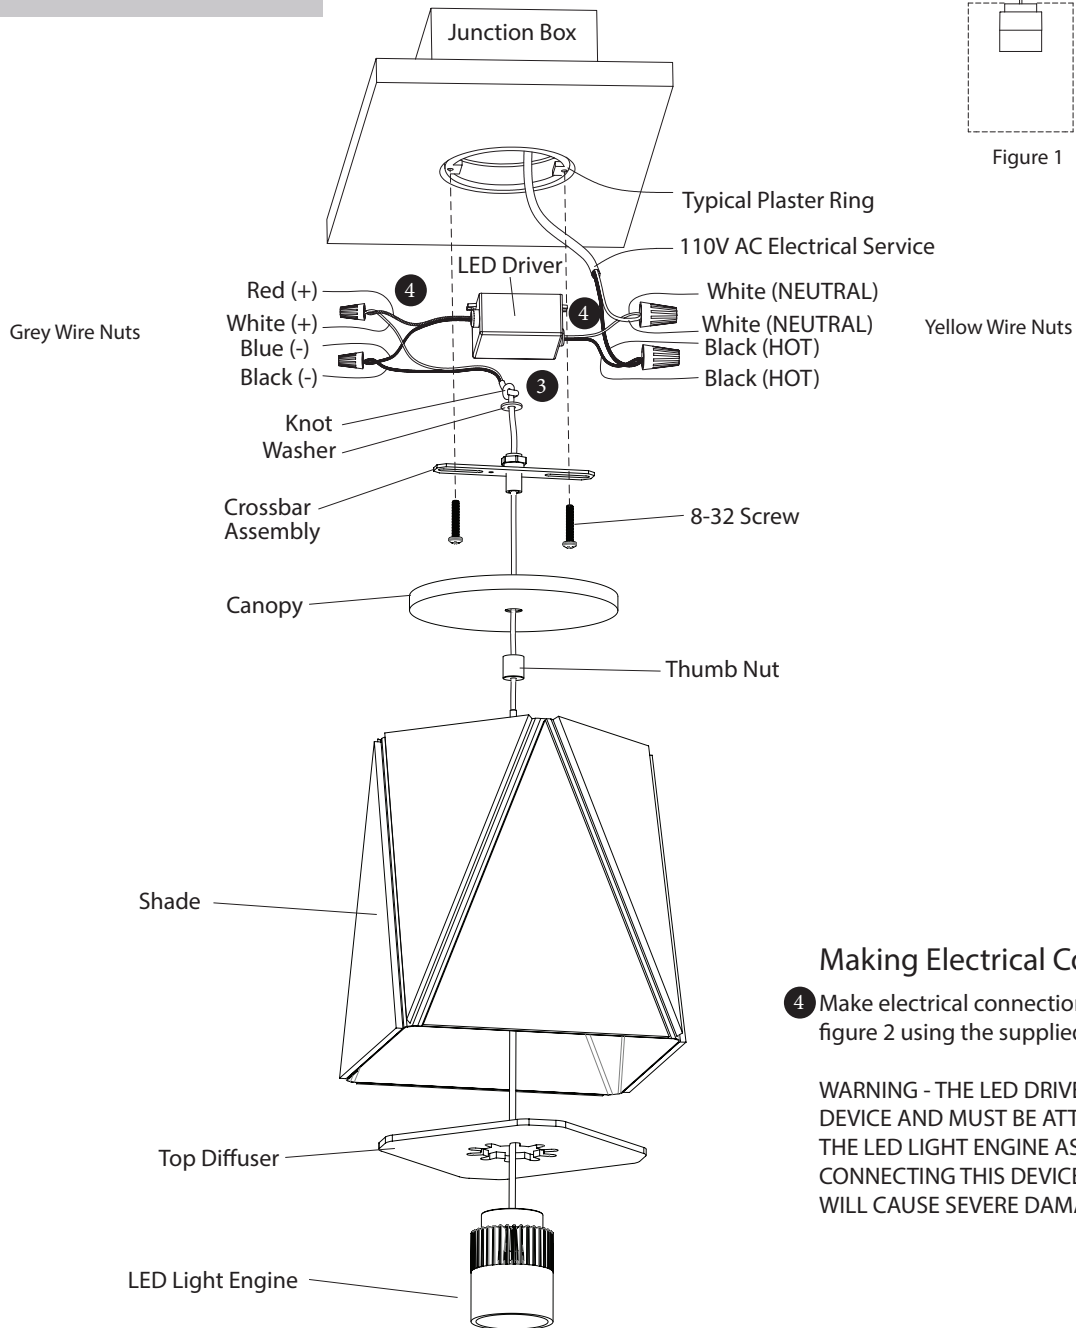

Figure 2
- 1 Measure the desired height (H) that you want the fixture to hang below the ceiling.
- 2 Thread the cable through the top diffuser, shade, thumb nut, canopy, crossbar assembly, and washer. (See Figure 2)
- 4 Make electrical connections as shown in figure 2 using the supplied wire nuts.